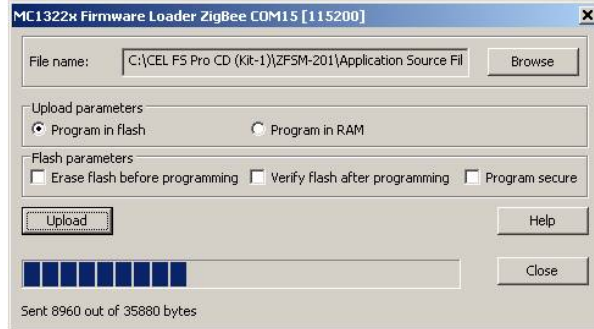

Figure 39 – Screen, FSTT – Upload in Process
- 12) While the upload is occurring, the screen in Figure 39 will be displayed.